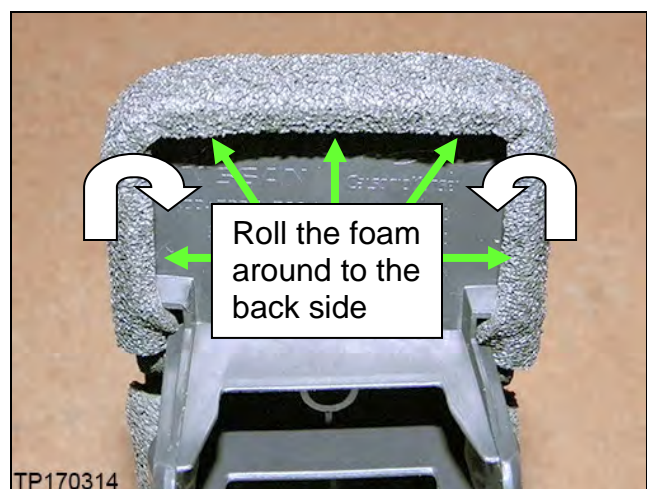

Figure 10A
- d. Roll the foam around to the back side (shown in Figure 10A) and press the adhesive down firmly.